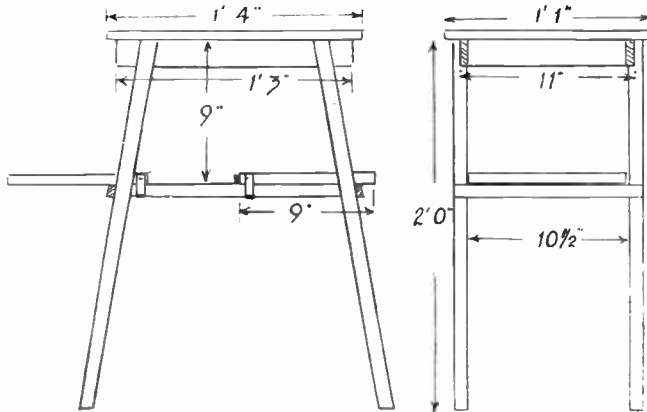

Fig. 1—Front and side views, showing measurements
Fig. 1 shows a front and side view of the article, which is quite easy to construct. Commence by making the underframe of the top. Cut the sides to length, and near each end chisel out grooves, $\frac{1}{4}$ in. deep, at the angle given at (A) in Fig. 2 for the legs. Cut the ends, and join these to the sides with a rebated joint, as at (B), the rebate cut into the sides being $\frac{1}{4}$ in. deep. Glue and nail these parts together.
$\frac{1}{4}$ in. by $\frac{1}{2}$ in. wood, to form a rim, and help to prevent the calamity of knocking a cup or plate off the trays with the hands, which could quite easily happen without the rims. These trays are arranged to slide in and out on the lower side rails, one tray being shown fully drawn out in the front view, at Fig. 1.
Before the construction is begun, it will be helpful to know just how the chimes function. When the bell-push is pressed, an electric current passes through the solenoid (S) Fig. 1, and the plunger (P) is pulled sharply into the solenoid. This causes the protruding end to strike tube (B).